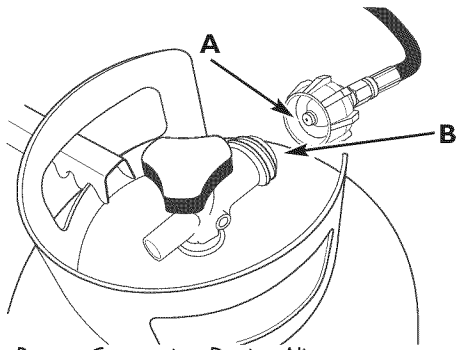

Figure 9 — Proper Connection Device Alignment
7. Insert the nipple of the left connection device (as you face the generator and LP fuel tanks) into the left LP fuel tank valve outlet (see Figure 9). Ensure it is fully inserted.
2. Disconnect the fuel hose from the LP tank by turning the large coupling nut COUNTERCLOCKWISE by hand (see Figure 9).